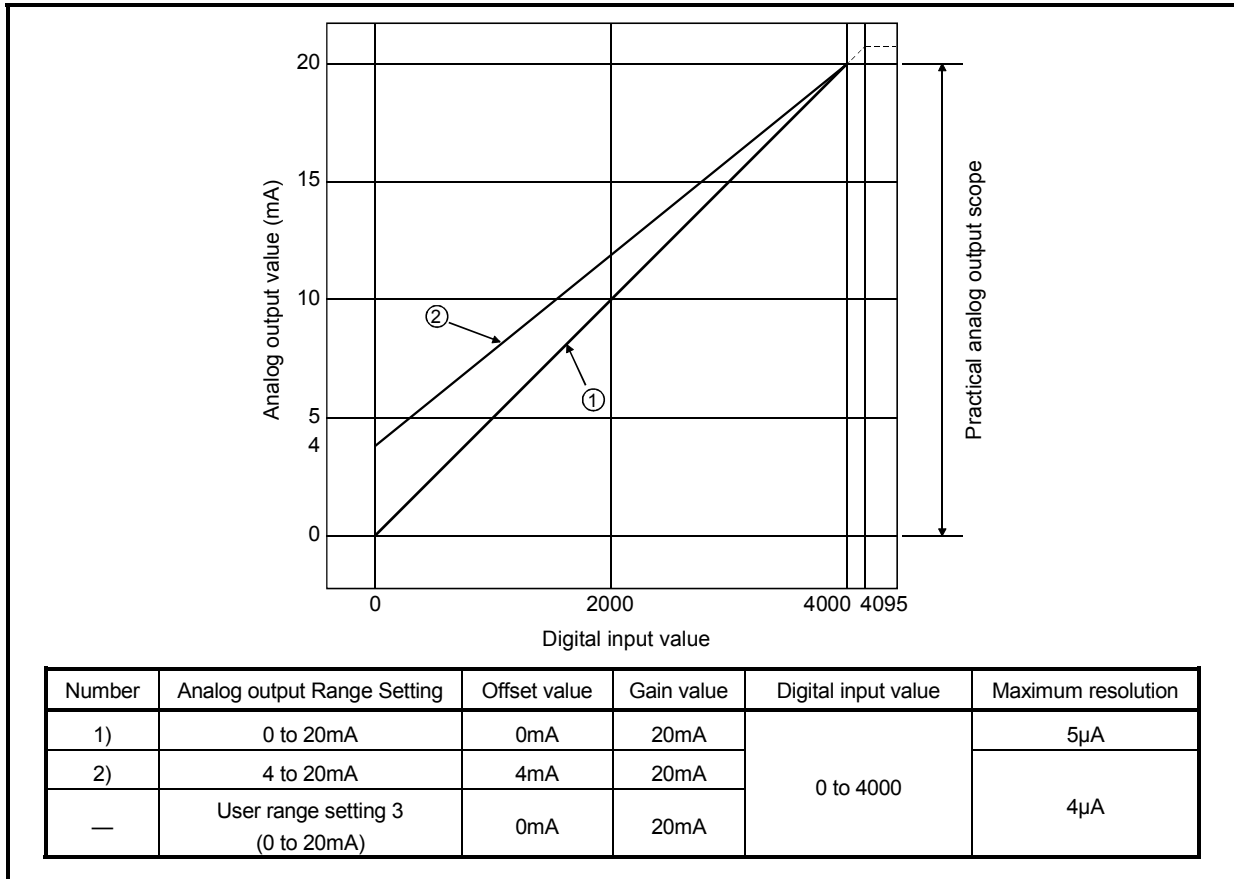

Fig. 3.2 Current Output Characteristic
<p>(1) Within the digital input and analog output scopes of each output range, the maximum resolution and accuracy are within the performance specification range. Outside those scopes, however, they may not fall within the performance specification range. (Avoid using the dotted line part in Fig. 3.2.)</p> <p>(2) Set the offset and gain values of the user range setting within the range satisfying the following conditions.</p> <p>(a) Setting range when user range setting 3 is selected: 0 to 20mA</p> <p>(b) (Gain value) &gt; (Offset value)</p> <p>If you attempt to make setting outside the setting range of (a), the "RUN" LED flickers at 0.5s intervals. Set the values within the setting range.</p> <p>If you attempt to make setting outside the setting range of (b), the "RUN" LED flickers at 0.5s intervals. Make setting again.</p>